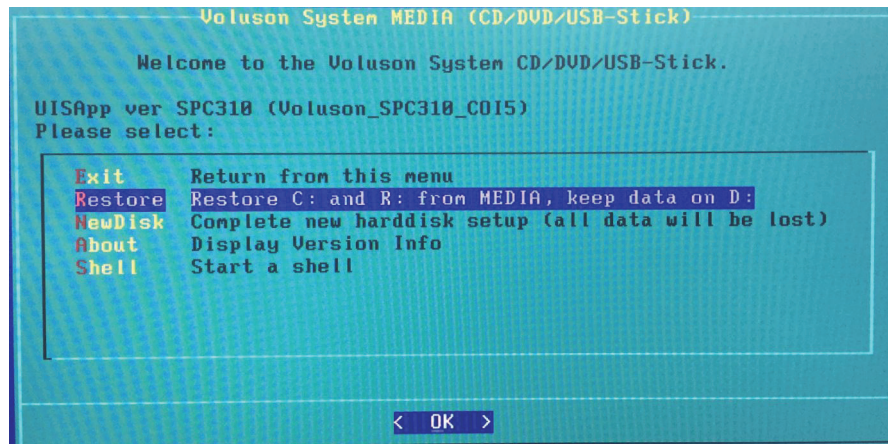

Figure 5-38 Media Menu (sample)
1.) Select [Restore] in the displayed “Media Menu” (see: Figure 5-38 above).